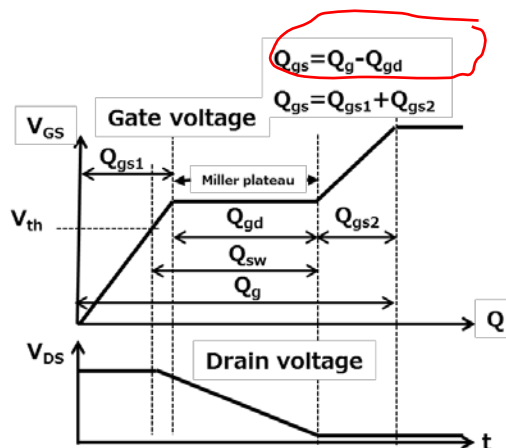

Figure 1.5 Definition of Total Gate Charge, Q_g
Because the Gate (G) input terminal of a MOSFET is insulated, the amounts of charge Q seen from the Gate, are important characteristics. Figure 1.5 illustrates the definitions of gate charge characteristics.